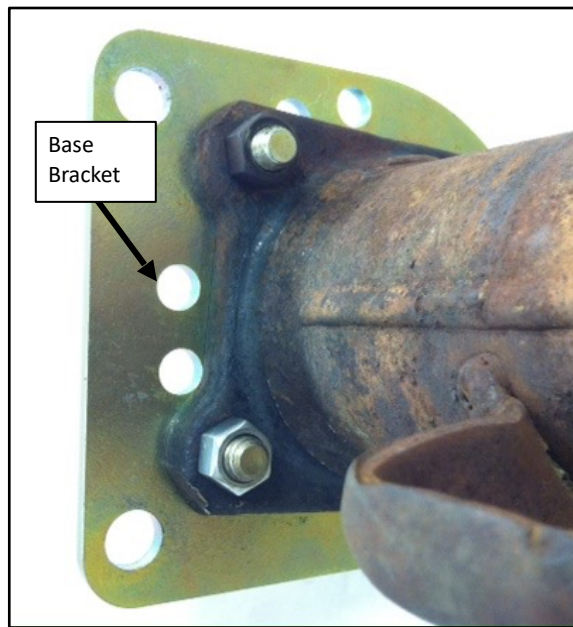

Figure 2: Base bracket (representational only), trailing position (inboard view)
6. The base brackets are different between model years 63-87 and 88-98 but they are basically installed the same way. See Figures 2, 3 and 4 for reference.
NOTE: The base bracket is designed so that it can mount in either the leading or trailing position. This means that the caliper will mount in front of the axle centerline (if the base bracket is mounted as a leading setup) or behind the centerline of the axle (if the bracket is mounted as a trailing setup). See Figure 2 for reference.